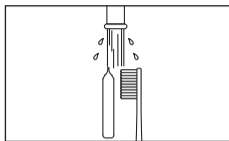

Fig. 14
- 3 After using the wrench, clean the external surfaces of the wrench with a soft bristled toothbrush for each 15 seconds or more. (FORZA+ X5) (Fig. 14)